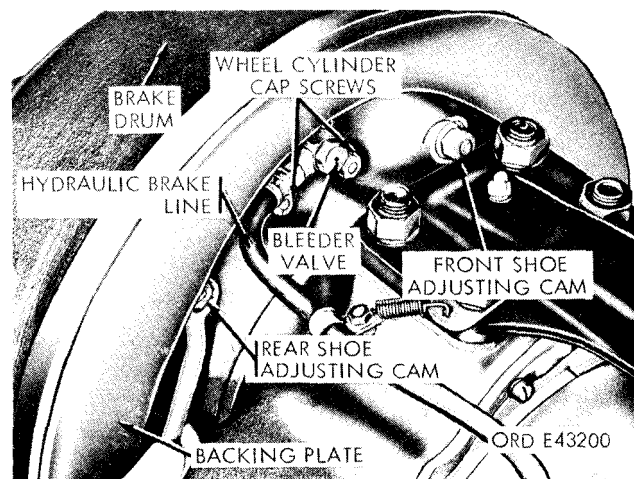
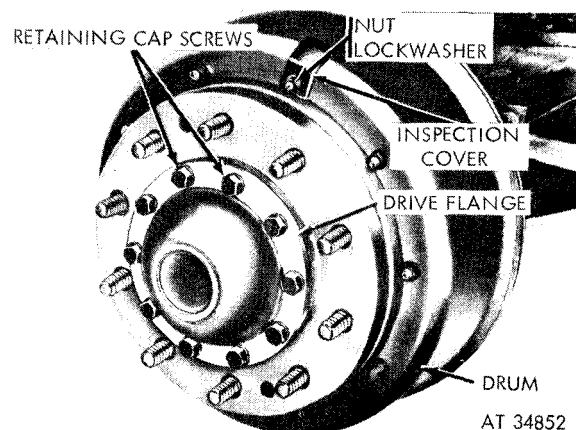

Figure 2-178. Turning brakeshoe adjusting cam.
Figure 2-179. Inspection cover attached to hub and drum assembly.
*(c)* Turn the rear shoe adjusting cam (fig. 2-178) on the back side of the backing plate counterclockwise until, the brake drags slightly when the wheel is turned by hand.
*(e)* Turn the front shoe adjusting cam (fig. 2-178) clockwise until the brake drags slightly when the wheel is turned by hand.
*(3) Major Adjustment.*
*(a)* With the wheel and tire assembly removed, remove the nut and lockwasher from the stud securing the inspection cover (fig. 2-179) to the brake drum. Remove the cover.
(i) Turn the rear shoe adjusting cam (fig. 2-178) until the clearance between the shoe and the drum, measured by feeler gage, is 0.020 inch. To reduce the clearance, turn the cam counterclockwise. To increase the clearance, turn the cam clockwise.
(m) Position the inspection cover (fig. 2-179), on the brake drum stud, install a lockwasher and nut on the stud, and tighten the nut.